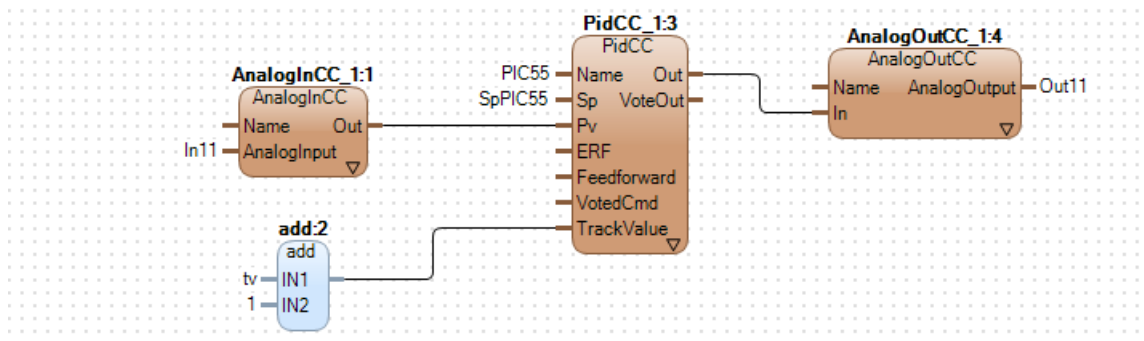

Figure 13. Example logic created in the graphical code pane of diagram type editor
- Graphical programming editor for FD (Function Diagram) (only in diagram type editor, see Figure 13)
To open this editor, right-click the diagram type, and select Editor. Figure 13 shows an example logic created in the FD code block of diagram type editor.